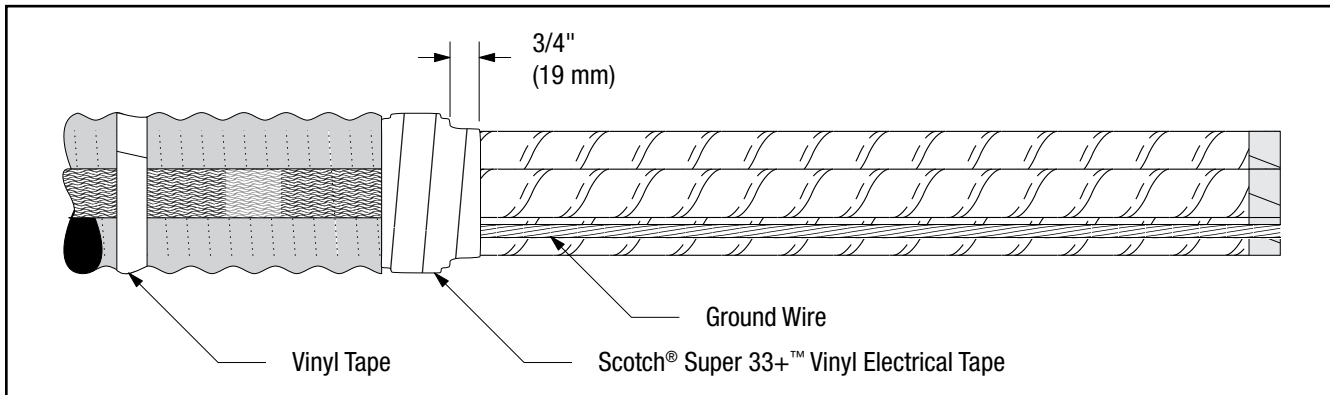

Figure 4
- 3.3 Apply one half-lapped layer Scotch® Super 33+™ Vinyl Electrical Tape over large constant-force spring and cable armor (*Figure 4*).
**Note:** Apply vinyl tape to hold down ground strap (*Figure 4*). Extend vinyl tape  $\frac{3}{4}$ " (19 mm) beyond end of armor and bind ground wires with four layers of Scotch® Super 33+™ Vinyl Electrical Tape.